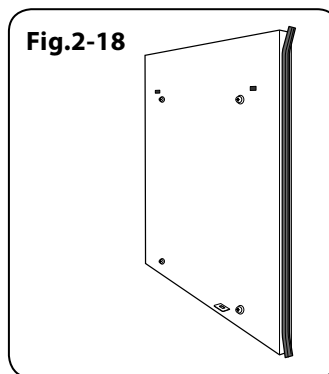

Fig.2-18
- And one divider (**Fig.2-18**)